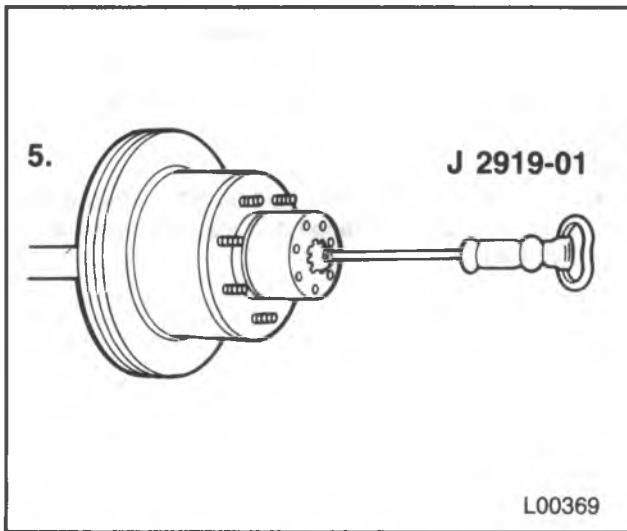

Figure 35 — Removing/Installing the Axle Shaft
1. Bolts (70) and washers (71).
2. Hub cap (72).
- Thread J 2619-01 into the tapped hole on the axle shaft (74) flange (figure 35).
- 3. Axle shaft (74) using J 2619-01 (figure 35).
1. Axle shaft (74).
- Tap the axle shaft (74) into position using J 2619-01 (figure 35).
- Index the axle shaft (74) splines into the hub (86) splines.
2. Gasket (73).
3. Hub cap (72).
4. Washers (71) and bolts (70).